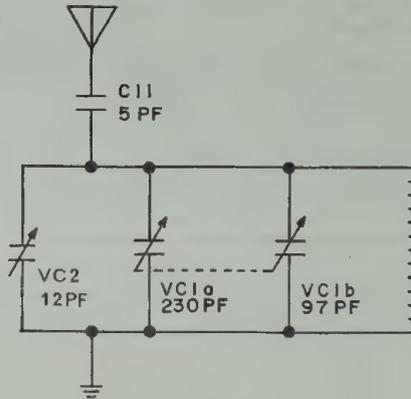

Figure 11 Tuning Circuit for Broadcast Band, Simplified
If the other three band coils were not in the circuit, the simple tuning circuit for the Broadcast Band would be as shown in Figure 11. In this simplified circuit, the signal from the antenna is coupled into the tuning circuit through 5 pF capacitor C11. A condition of resonance is produced in the inductive-capacitive (LC) tuning circuit. The tuning circuit consists of the MAIN TUNING capacitors VC1a and VC1b in parallel with the primary winding of the Band A coil. The series combination of the variable BANDSPREAD capacitor VC2 provide a small amount of additional capacitance which is used for fine tuning over small areas of selected bands.